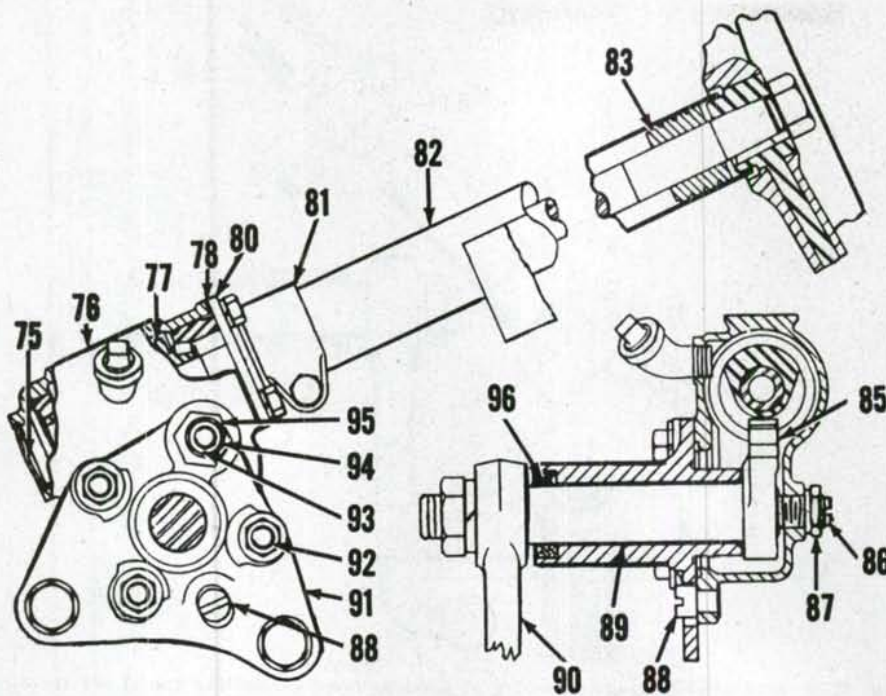

Fig. AC16—Gemmer steering gear assembly as used in early production B and C models.
17. WORM SHAFT END PLAY. First step in making this adjustment is to remove the fuel tank. To reduce play in worm shaft bearings, remove the steering wheel, loosen clamp (81—Fig. AC16) and slide tube (82) up column. Remove cap screws retaining
19. GEAR MESH. To adjust gear mesh, loosen column bracket clamp and locate mid-position of gear by turning steering wheel from one extreme position to the other then back half way. With gear in mid-position, loosen housing retaining nuts $\frac{1}{4}$ turn and eccentric sleeve jam nut (93) $\frac{1}{2}$ turn. Slowly turn eccentric sleeve (95) clockwise while checking amount of gear backlash by feeling play in ball arm. (Turning eccentric sleeve clockwise moves steering gear housing down in relation to sector shaft housing bringing worm and sector into deeper mesh, thereby reducing gear backlash.) Adjust eccentric sleeve until play in ball arm is barely perceptible, when steering wheel is in mid-position. Make last adjustment of the eccentric sleeve in the clockwise direction. After mesh adjustment is completed, tighten eccentric sleeve jam nut, then housing nuts.
20. CENTRALIZATION. Check gear centralization by determining amount of play in ball arm when wheel is turned $\frac{1}{8}$ turn to the right and $\frac{1}{8}$ turn to the left of mid-position. If play is not the same on both sides of mid-position, loosen housing nuts and eccentric sleeve jam nut $\frac{1}{4}$ turn and centralize gear by turning eccentric rivet (88). If there is more play to the right, turn rivet clockwise and if more to the left, turn rivet counterclockwise. After gear has been centralized, re-adjust gear mesh with eccentric sleeve as previously described. Ball arm should be positioned on sector shaft so that steering gear is in mid-position when wheels are straight ahead.
21. OVERHAUL. Gear unit should be removed from tractor. Procedure is readily evident from an examination of Fig. AC16. When reassembling, install worm gear and shaft assembly and adjust worm gear bearings before assembling balance of steering gear. For complete adjustment procedure, refer to paragraphs 17 through 20.